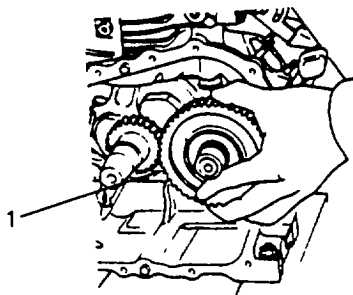

Figure 6-14. Inserting Camshaft
- b. Refer to Figure 6-14. Insert the camshaft assembly (1) into the cylinder block.